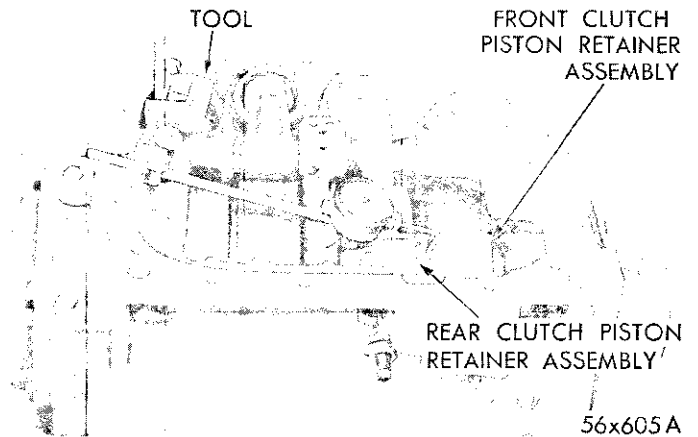

Fig. 34—Checking Front Clutch Piston Retainer Assembly End Clearance
- (1) Install dial indicator, Tool C-3339, as shown in Figure 34.
- (2) To make this measurement, pry front clutch forward by carefully inserting screwdriver between the front and rear clutch piston retainers.
- (3) Remove screwdriver and with the dial indicator point contacting edge of front clutch retainer, set dial indicator to zero.
- (4) Pry the front clutch piston retainer assembly rearward against rear clutch, remove screwdriver and take indicator reading. This clearance should be from .020" to .050". If the clearance exceeds the specified limit, particular attention should be paid